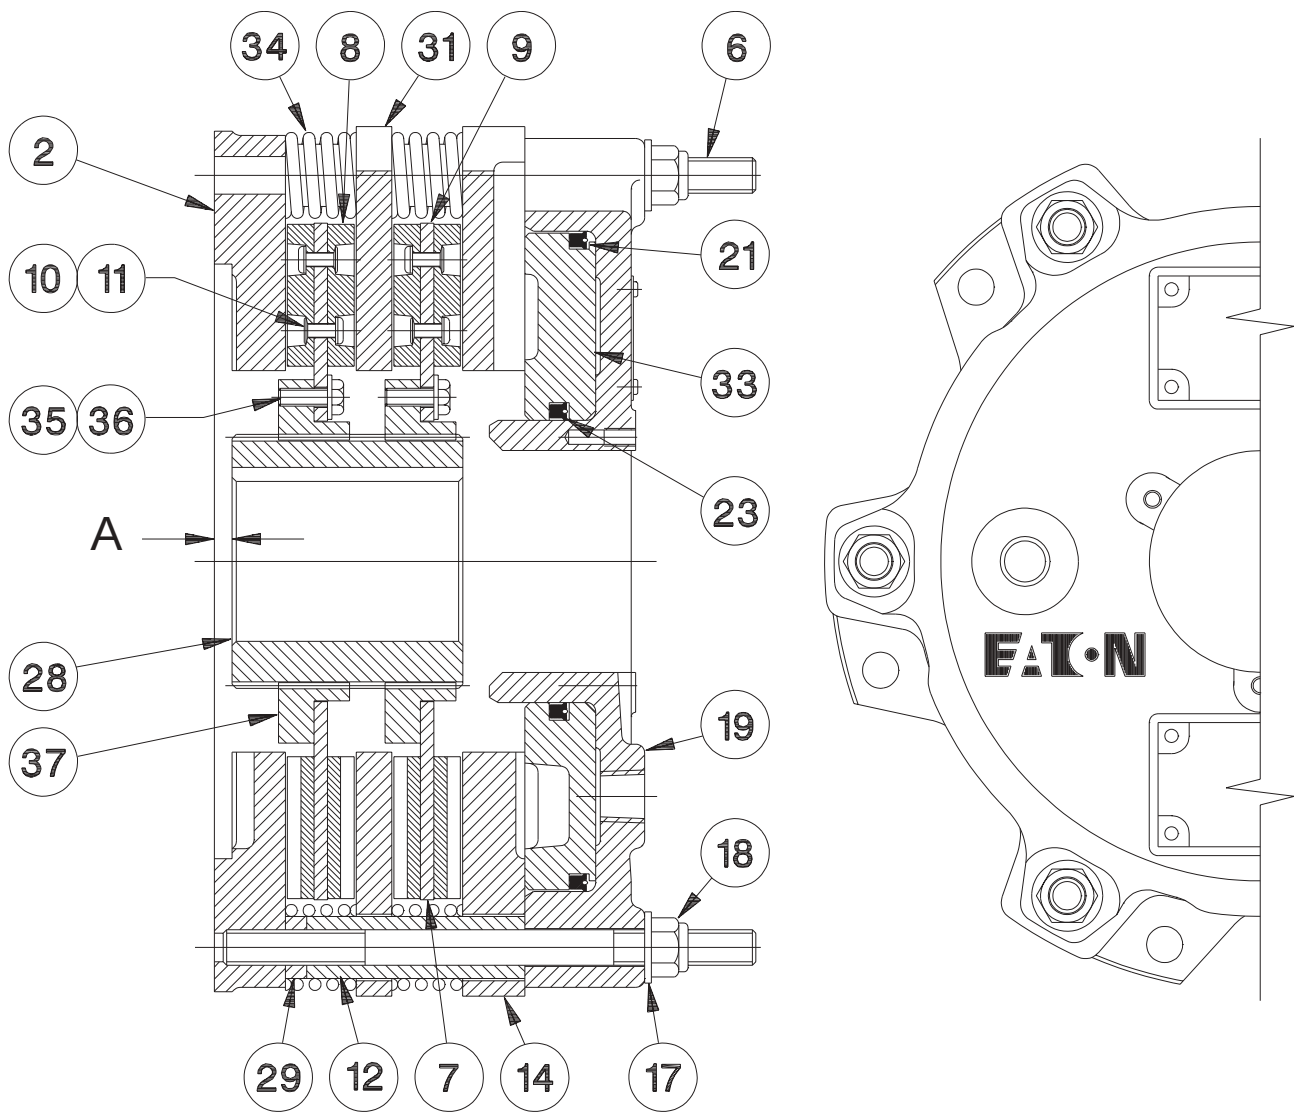

Fig. 1
- 1.2.2 Refer to Figure 1. As air pressure is applied through the ports in the cylinder (19), the piston (33) and pressure plate (14) move towards the mounting flange (2). The movement of the pressure plate compresses the springs (34). When the pressure is sufficient to overcome the force of the springs, clamp force is applied to the friction disc assembly (7) which rides on the gear (28). On multi-disc models, additional friction disc assemblies and reaction plates (31) are clamped between the pressure plate and mounting flange.
- 2.2.1 Table 1 shows the relationship between the element mounting surface and the end of the gear (dimension "A" on Figure 1). The gear is bored and keyed for a resulting Class FN2S interference fit for inch shafting and ISO System S7h6 for metric shafting.
- 2.3.4 Press the gear onto the shaft, making sure the "A" dimension between the gear and the mounting surface is maintained. See Figure 1 and Table 1. Heating the gear uniformly to approximately 250°F (121°C) will expand the bore and ease assembly.